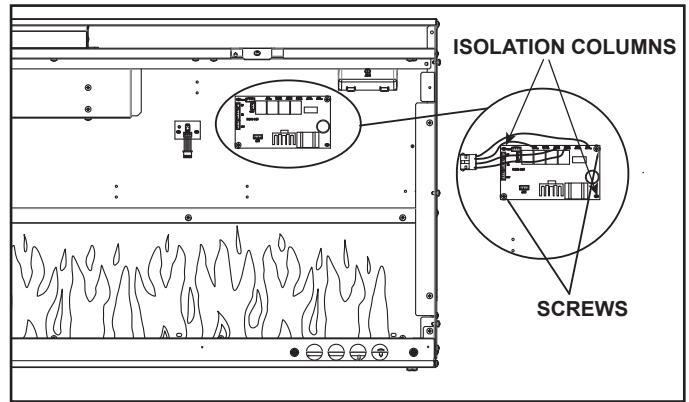

Figure 17 Control Board Installation
1. Locate the Control Board. See Figure 17.
2. Unplug five (5) wire connectors from the board and three (3) wire assemblies. See Figure 17.